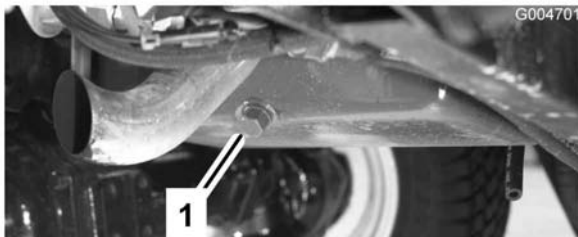

Figure 50
1. Remove either drain plug (Figure 50) and let the oil flow into a drain pan. When the oil stops, install the drain plug.